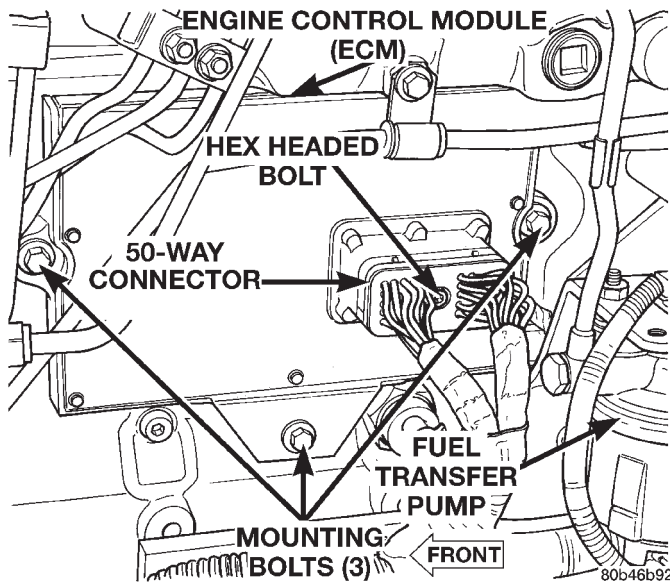

Fig. 28 Engine Control Module (ECM) Location and Mounting
The ECM is bolted to the engine block behind the fuel filter (Fig. 28).
- (2) Disconnect both negative battery cables at both batteries.
- (3) Remove 50-way electrical connector bolt at ECM (Fig. 28). Note: Connector bolt is female 4mm hex head. To remove bolt, use a ball-hex bit or ball-hex screwdriver such as Snap-On® 4mm SDABM4. As bolt is being removed, very carefully remove connector from ECM.
- (4) Remove three ECM mounting bolts and remove ECM from vehicle.